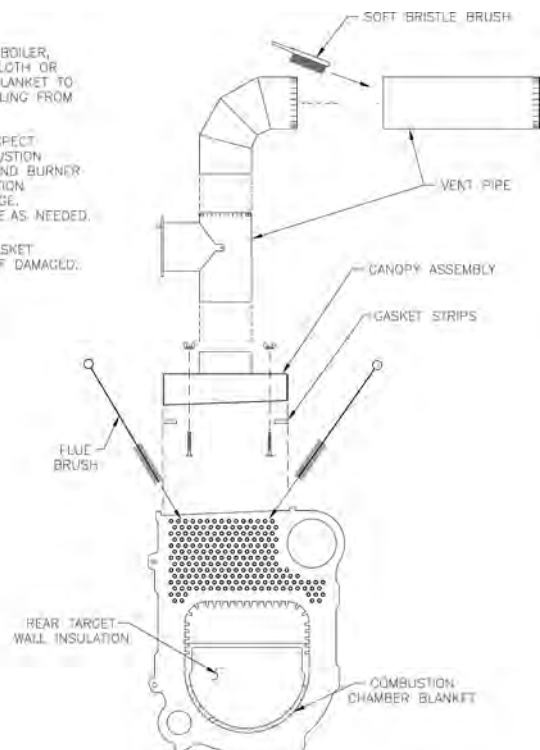

Figure 28: Cleaning of Boiler Flueways
A. CLEAN THE FLUEWAYS (See Figure 28).